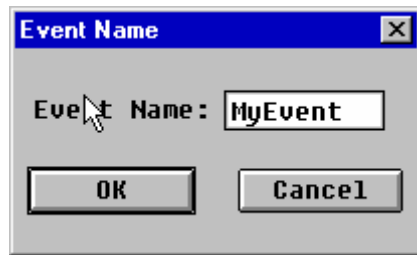

Figure 5.9 Renaming an event
- Rename** Select an entire event by clicking on the name of it, for instance select event VME0 by clicking on the name VME0. The event is highlighted. Double click on the name, or press CR. The Rename Event dialog box appears, as shown in Figure 5.9. Change the name and press the OK button.